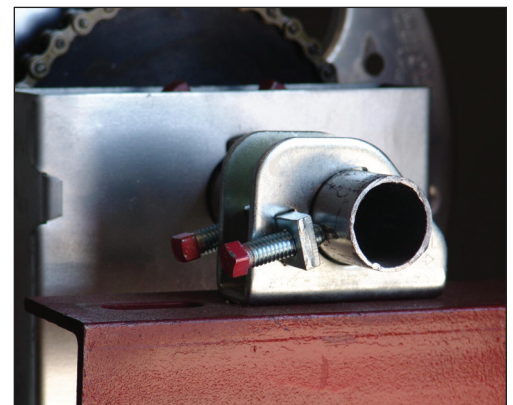

Figure 2 Saddle Installation
- A. Using one (1) saddle per side, with the directional arrow pointing toward the wall, slide the saddle over the axle pipe (**Figure 2**).